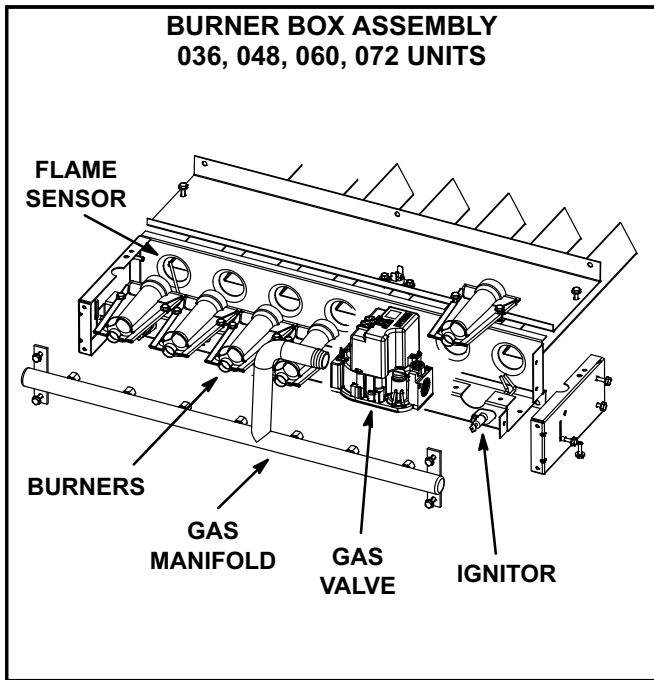

FIGURE 8
- 3- Remove top burner box panel. See figure 8 or 9.